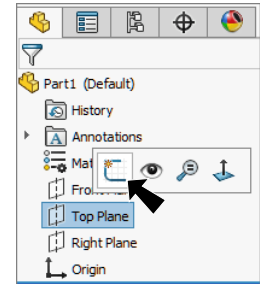

Fig. 1
Step 2. Click **Top Plane**  in the Feature Manager and click **Sketch**  on the context toolbar, **Fig. 1**.